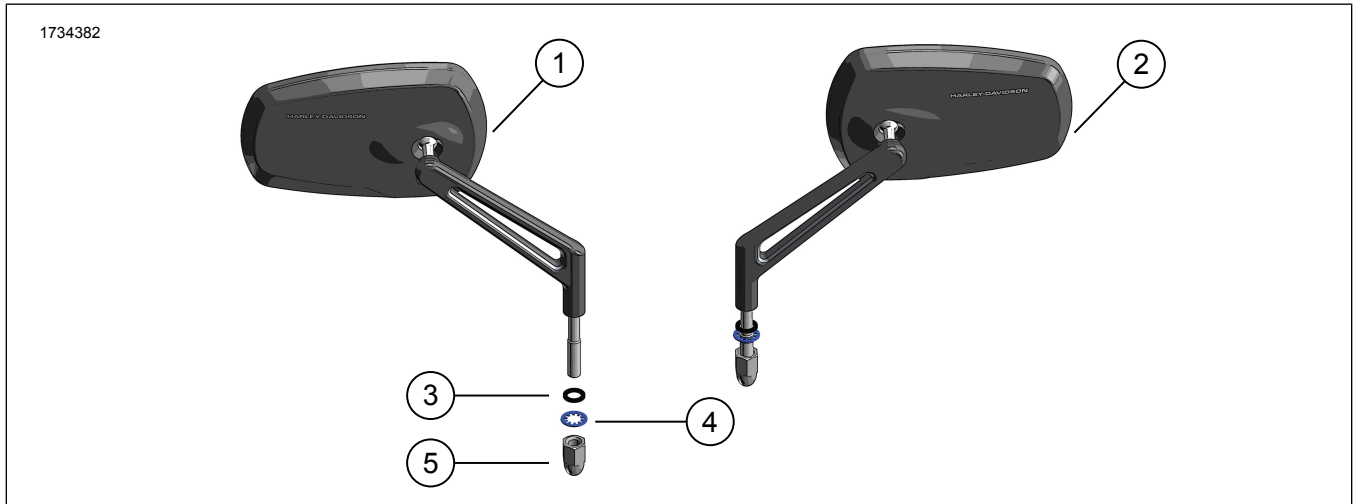

Figure 1. Kit Contents: Mirror Kits
- a. Figure 1 Install flat washer (3) on mirror stud (top position) all mirrors except Part No's. 91696-05A, 92398-09 and 92410-09.
3. **Vehicles with turn signals mounted to underside of hand lever housings (except 2004-later XL models):** Secure left side mirror using only lockwasher (3) and acorn nut (3) from kit.
4. Secure right side mirror with lockwasher (4) and acorn nut (5) from kit and turn signal retainer only.
- a. Secure mirrors with flat washers (3) in top and bottom positions, lockwashers (4) and acorn nuts (5) from kit.
- b. Tighten acorn nut (5).